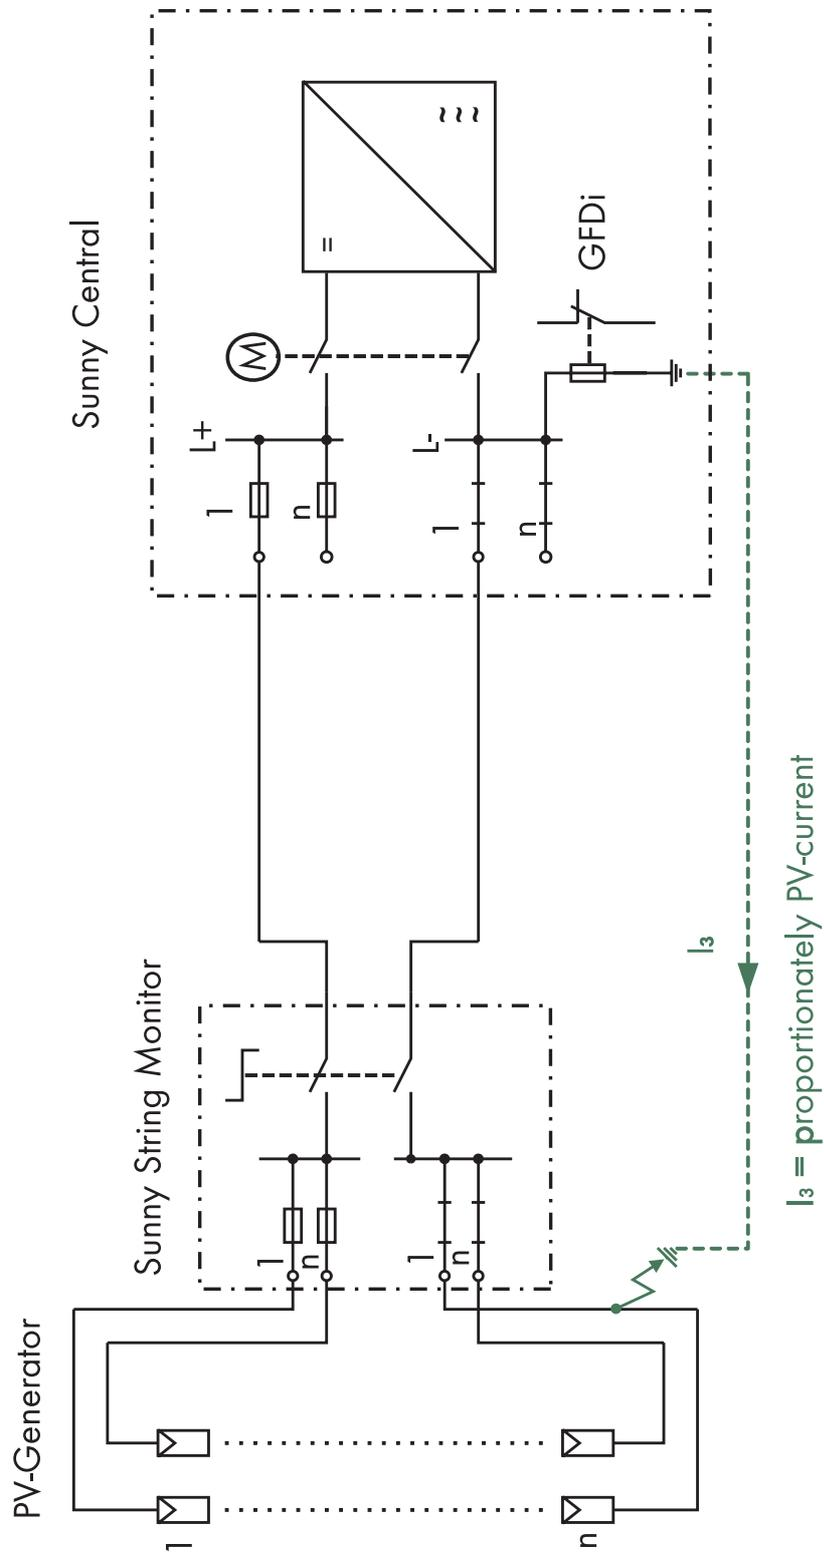

Figure 3: Ground fault in the grounded pole during operation
- During operation, a ground fault in the PV generator's grounded pole causes some of the generator current to flow back to the solar generator via the GFDI (see figure 3). This can also trigger the GFDI.